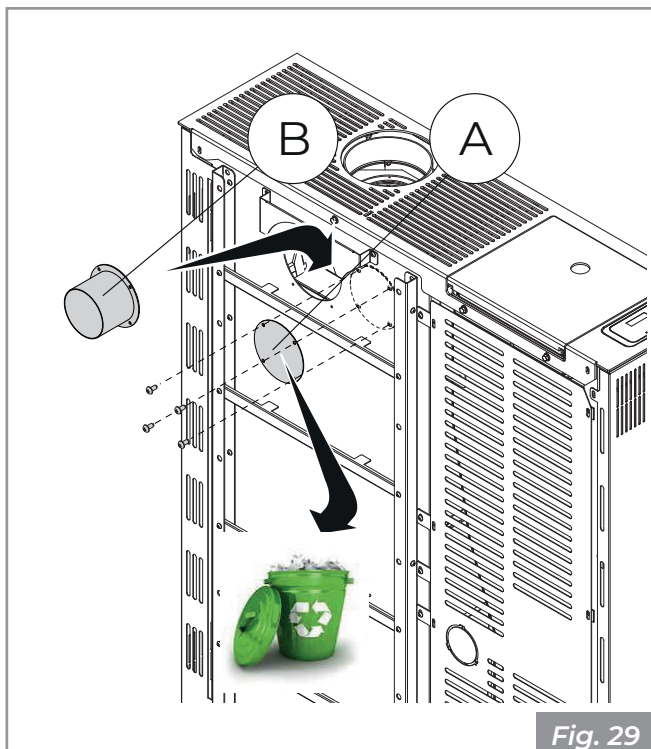

Fig. 29
In order to connect the stove to the ducted heating system, it is necessary to remove the rear cap (A) and fit the 80 mm diameter pipe (B) supplied (Fig. 29).